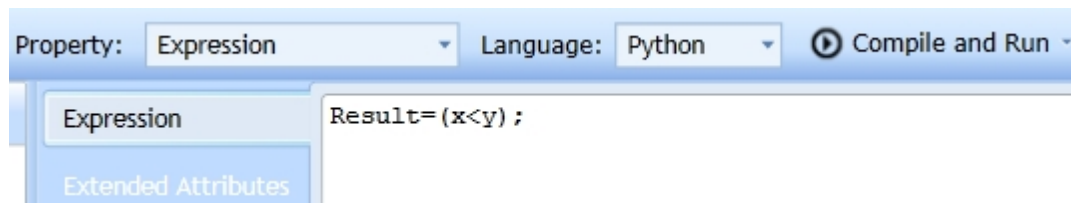

Figure 1: A condition's expression in Python language
- See the figures 1 and 2 for the same expression
- Figure 1 in Python